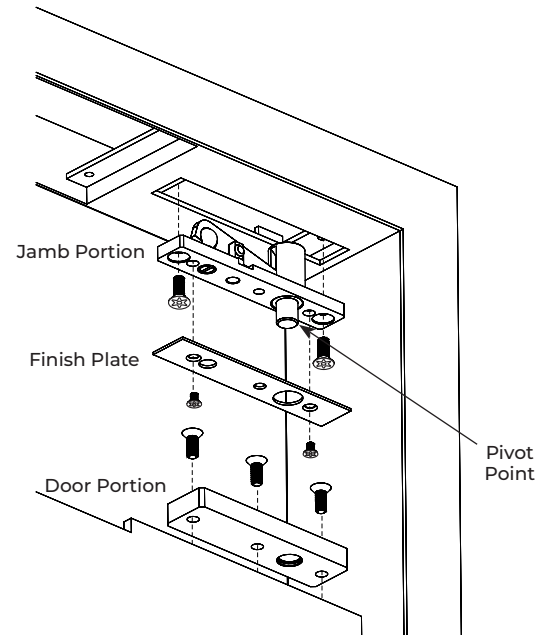

Figure 2 Top Pivot Set
1. Install jamb portion in prepared frame using a T30 Security Torx bit with two (2) 1/4-20 x 3/4-FHMS-TORX machine screws. (Figure 2)
2. Install door portion in prepared door using a T30 Security Torx bit with three (3) 1/4-20 x 3/4-FHMS-TORX machine screws. (Figure 2)
3. Attach finish plate to jamb portion using a T15 Security Torx bit with two (2) 8-32 x 1/4-FHUCMS-TORX machine screws. (Figure 2)